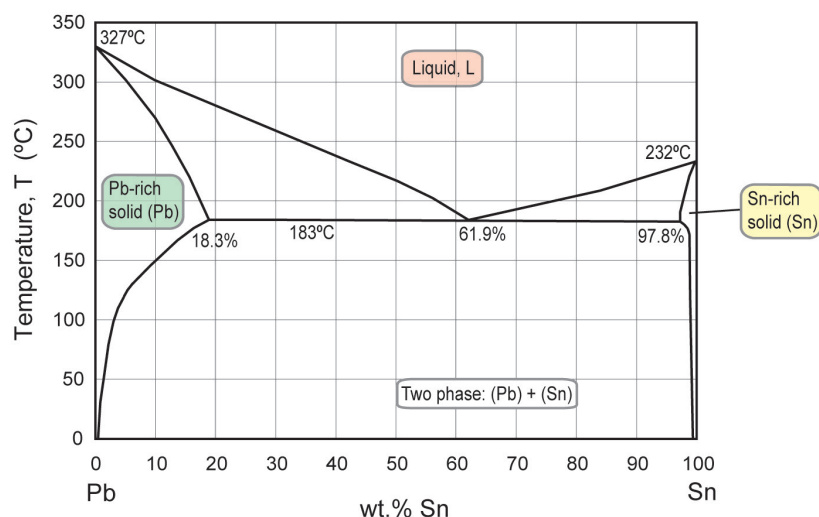

Figure 2: Pb-Sn phase diagram
7. Use the Pb-Sn diagram in Figure 2 to answer the following questions.
9. Using Figure 2, consider the Pb-Sn alloy with composition $W_{Sn} = 25\%$. What are the approximate proportions by weight of the phases identified in Question 7, at 250°C, 200°C and 150°C?